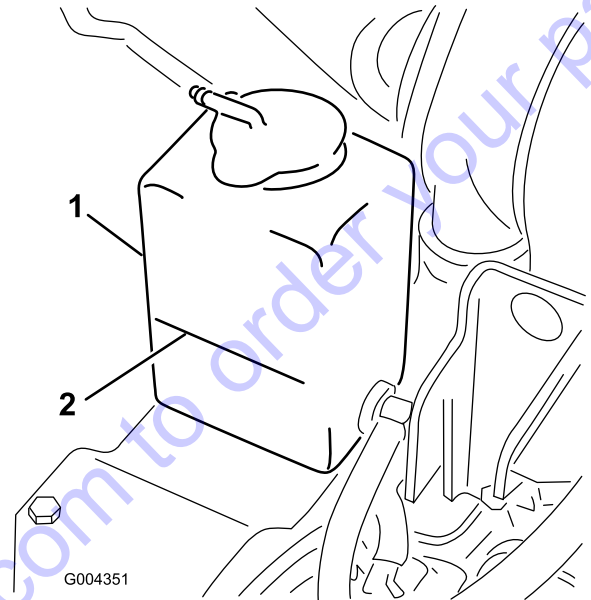

Figure 50
3. Check the coolant level of coolant in the expansion tank (Figure 50).